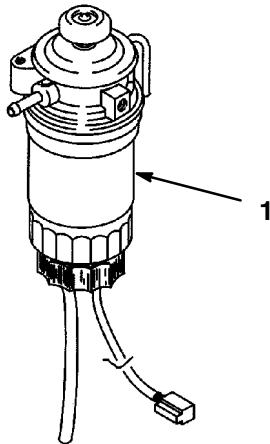

Figure 35
1. Clean the area where the filter canister mounts (Fig. 35).